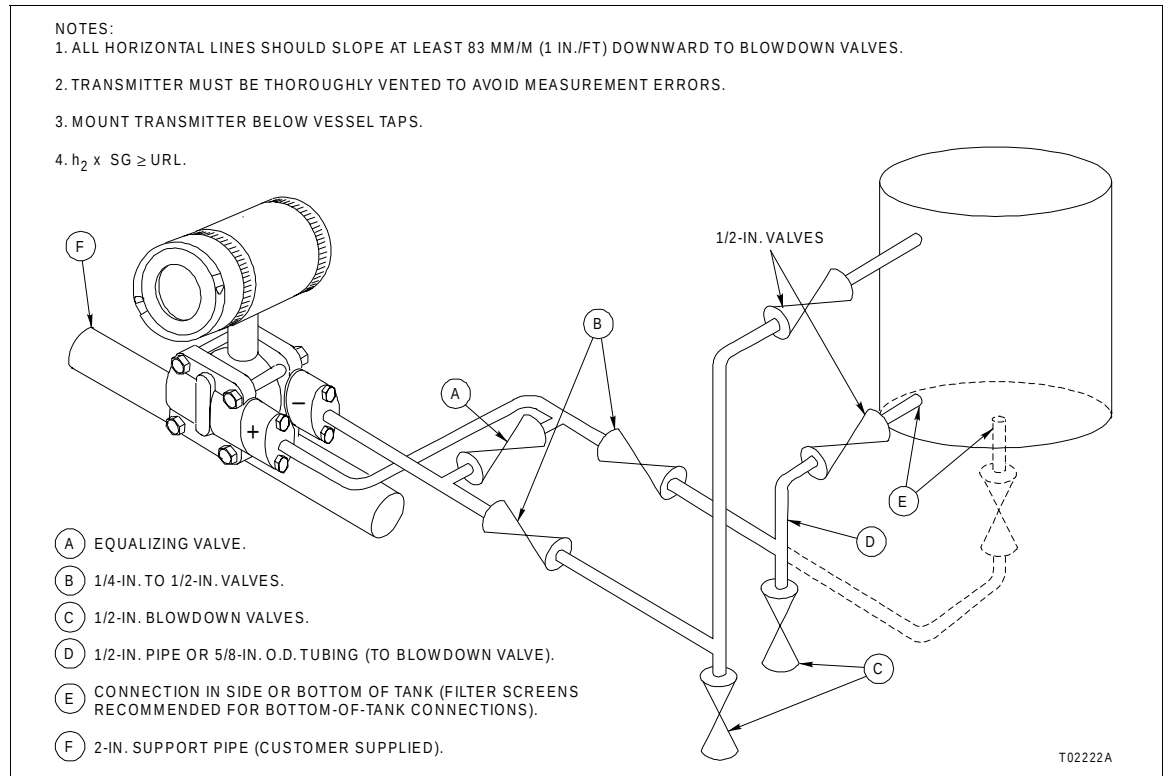

Figure 3-10. Closed Tank (Noncondensing Atmosphere) Level Measurement Piping
1. Figure 3-10 shows a typical piping arrangement for closed tank level measurements in noncondensing atmospheres.
4. Observe the conventions as shown in Figure 3-10.